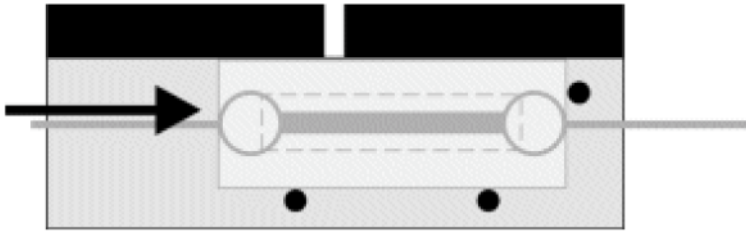

Figure 6-8: Slide cartridge against the right pin.
14. Gently slide the cartridge to the right until it stops at the right positioning pin (Figure 6-8).